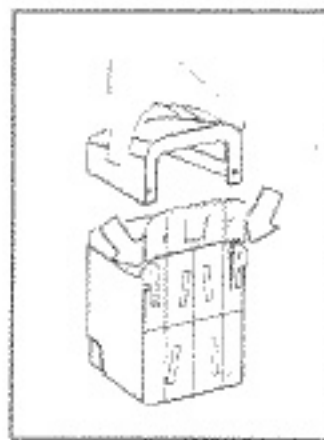

FIGURE 1
1. Push in tabs on back of wall bracket to lift off the top of the unit. (Figure 1)